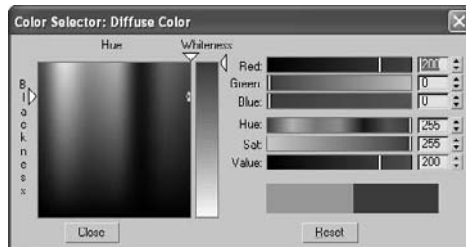

Figure 7.70
2. In the Blinn Basic Parameters rollout, select the color box next to the Diffuse Color that controls the base color of an object; a Color Selector dialog will open. Create a red color with the values of Red: 200, Green: 0, Blue: 0, as shown in Figure 7.70.